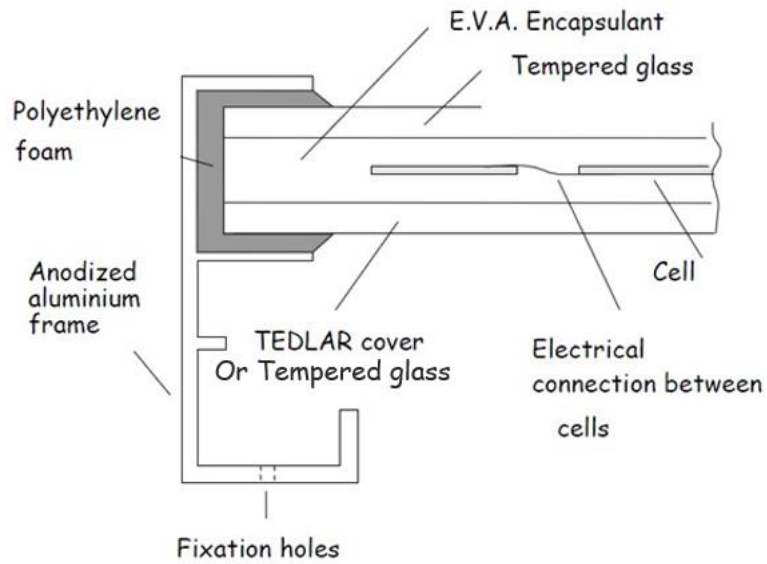

Figure 12
6. Figure 12 shows a schematic diagram of a cross-section of a photovoltaic module.